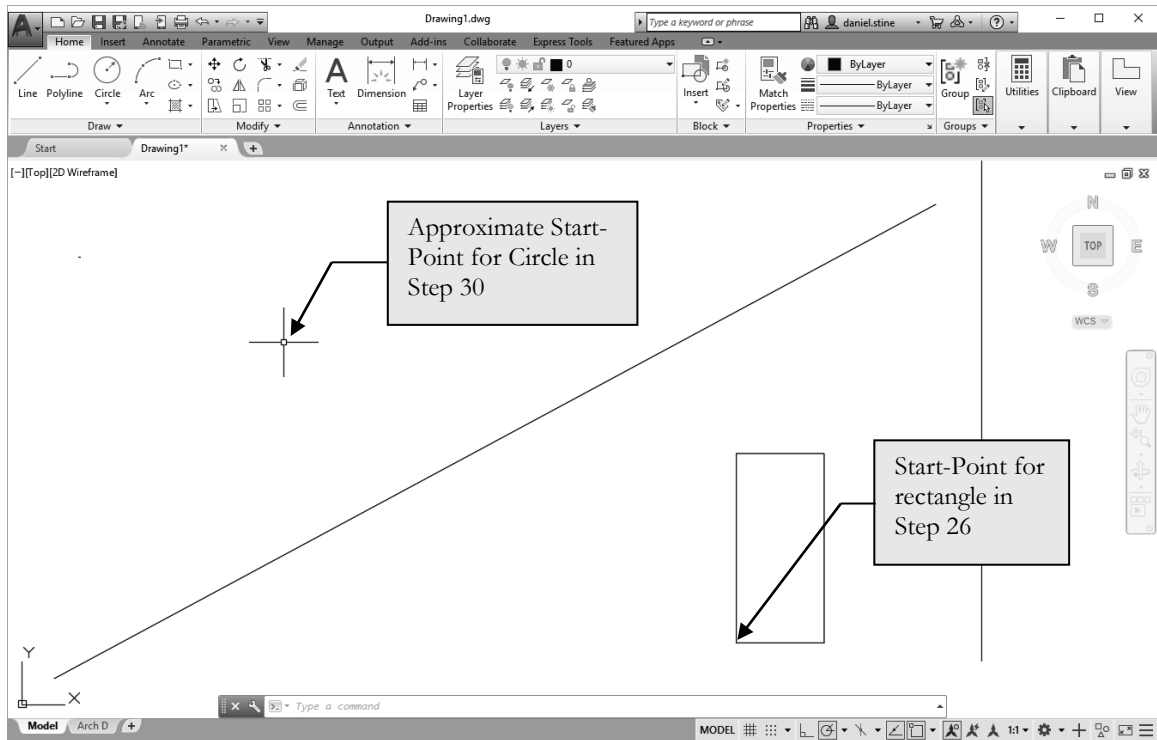

FIGURE 2-1.13 Drawing with Rectangle added
26. Pick your “**first corner point**” somewhere near the middle-bottom of the *Drawing* window (Figure 2-1.13).
30. You are now prompted to pick the center point for the circle; pick a point approximately as shown in Figure 2-1.13.